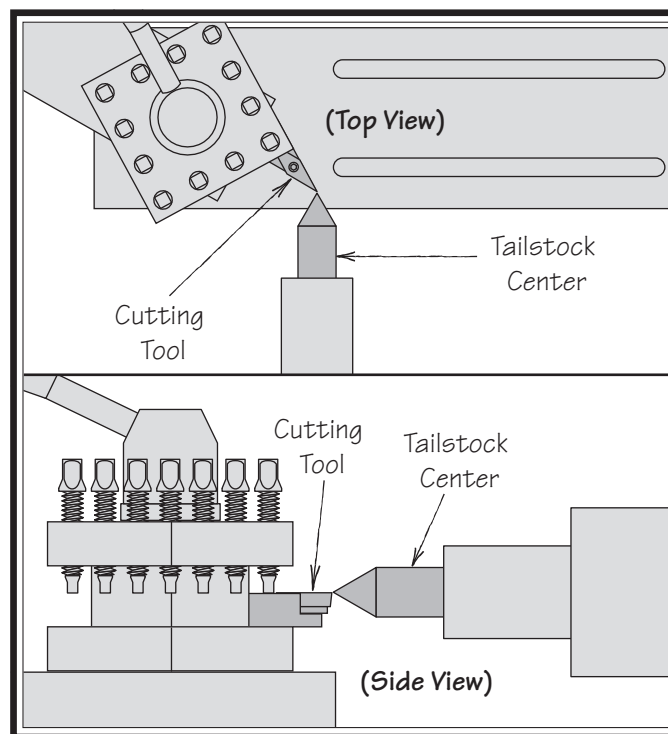

Figure 44. Cutting tool tip aligned with tailstock center.
4. Adjust the height of the cutting tool so that the tool tip is aligned vertically and horizontally with the center tip, as illustrated in **Figure 44**.